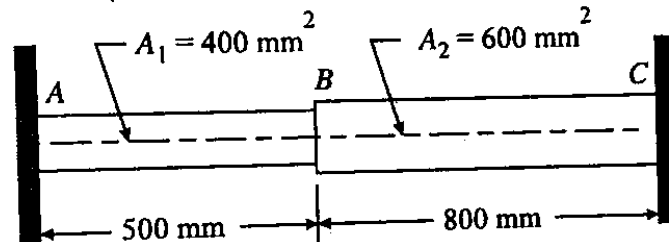

Figure: 1.3
5. A steel rod ABC is firmly held between two rigid supports as shown in fig. 1.3 Find the stresses developed in the two portions of the rod, when it is heated through 15 K. Take  $\alpha = 12 \times 10^{-6} / \text{K}$  and  $E = 200 \text{ GPa}$